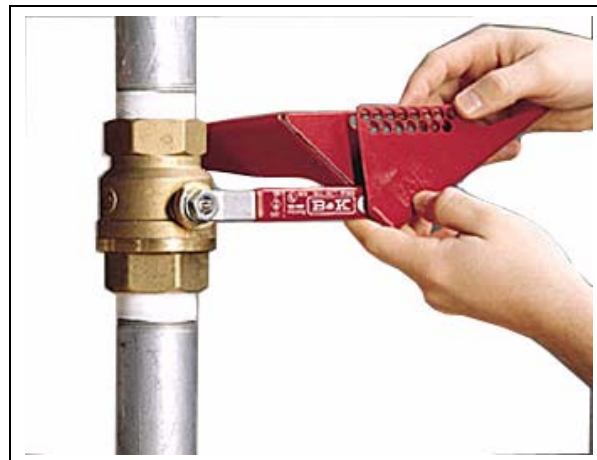

Figure 1B
6. Ensure the fuel supply is OFF and LOCKED. (See Figure 1B.)